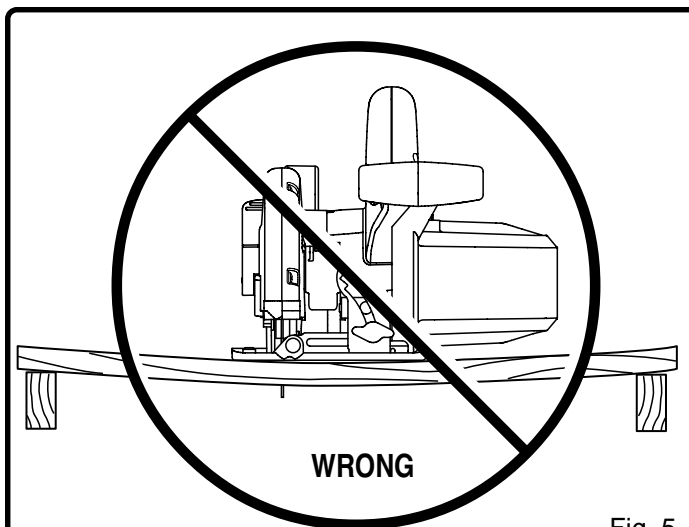

Fig. 5
- Incorrectly supporting work. See Figure 5.